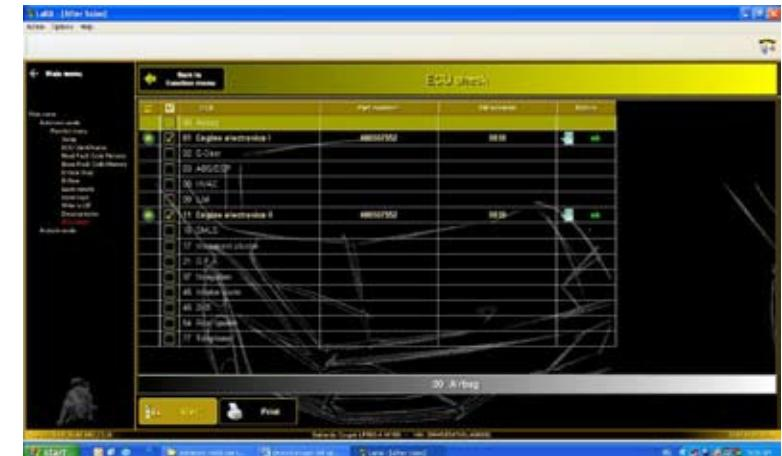

Fig.105
3. If the result is "OK", the engine control units have been updated (Fig.105).